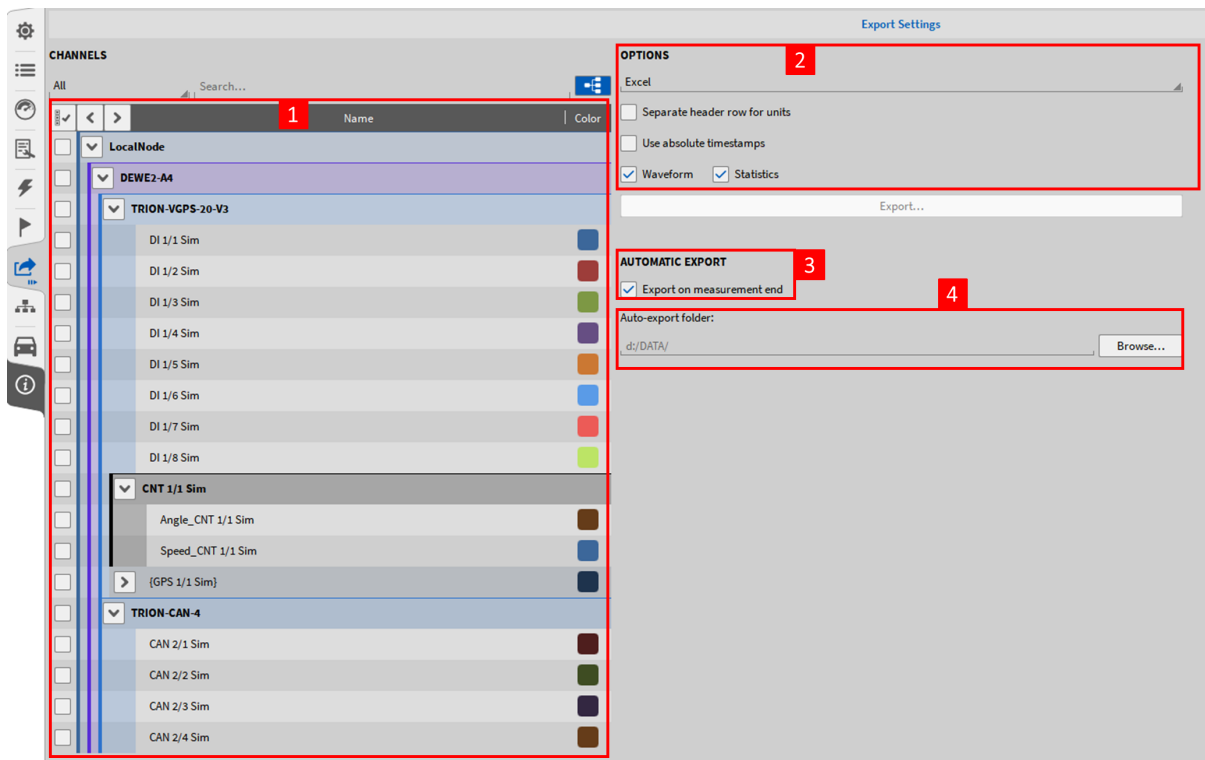

Fig. 11.25: Export menu, Auto-export settings
- Open the Export menu and enlarge it to the full screen (see Fig. 11.25):
- Select either all or individual channels that shall be exported automatically after the measurement is finished (see ① in Fig. 11.25) by checking the certain checkboxes on the left-hand side
- Select the desired file format and its individual export options (see ② in Fig. 11.25).
- Check the checkbox *Export on measurement end* (see ③ in Fig. 11.25)
- Specify the desired directory the export files shall be stored to (see ④ in Fig. 11.25)